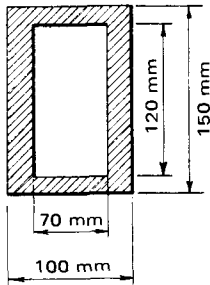

Fig. 1.50
**Example.** Fig. 1.50 shows the cross-section of a cast iron bar which is 400 mm long. What is the mass of the bar?